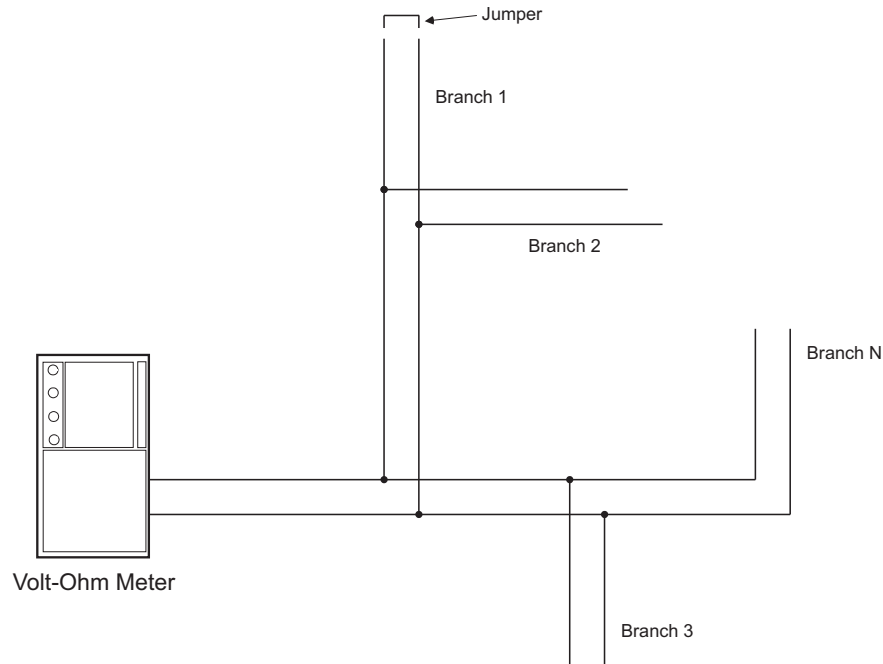

Figure 2-10. Measuring Class-B SLC Wiring Resistance
1. Short the ends of each branch line one at a time. Measure the resistance from the terminating points at the control unit to the end of the branch line. See Figure 2-10.